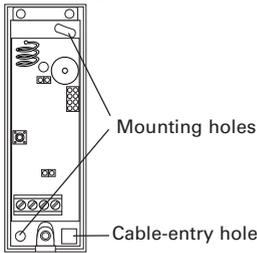

Figure 2. Base station backplate
3. Feed the cable from the control unit through the hole in the backplate (Figure 2), and then screw the backplate to the mounting surface.